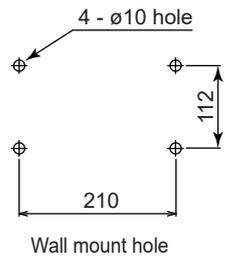

Figure 3.2 **Mounting holes**
- (1) Drill mounting holes through the wall as shown in Figure 3.2.